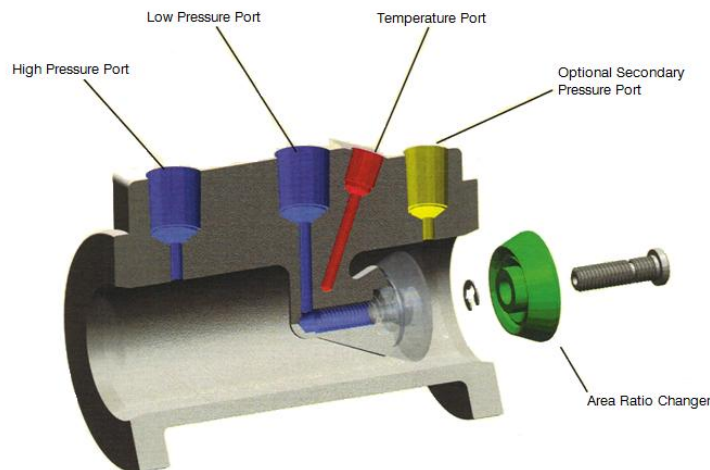

Figure 1: Components of a SmartCone® Flow Meter
The SmartCone® is comprised of four (4) main elements as shown below in Figure 1.
A fluid flowing through the meter passes around the ARC and a pressure drop occurs. The static line pressure (P1) is measured through the upstream High Pressure port (refer back to Figure 1). The downstream pressure (P2) is measured through the Low Pressure port, which is directly connected to the center of the ARC.